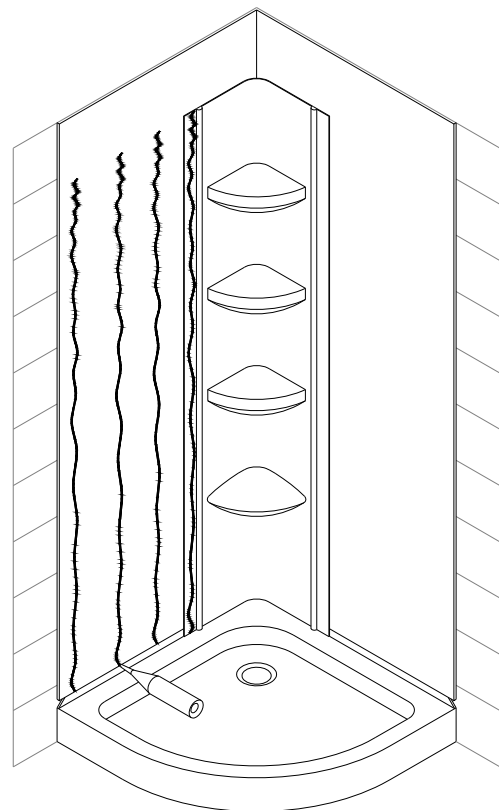

Fig 4
4. Run a bead of silicone down the next area where the side panel will rest (this should be the side where there are no controls or valves). See Fig 4 for details.